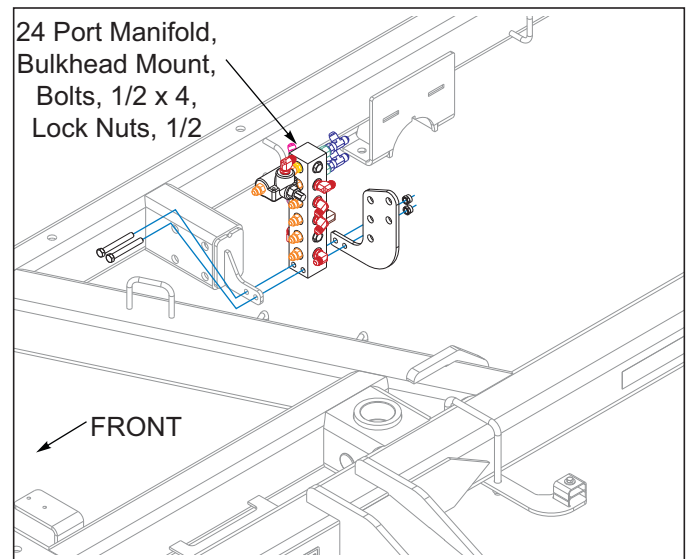

Figure 3-9: 24Port Manifold 7531-32'-35'
4. Models 7531-32'-35' install the 24 port manifold, bulkhead mount in position shown, **See Figure 3-9**, using 1/2 x 4 bolts and 1/2 lock nuts.